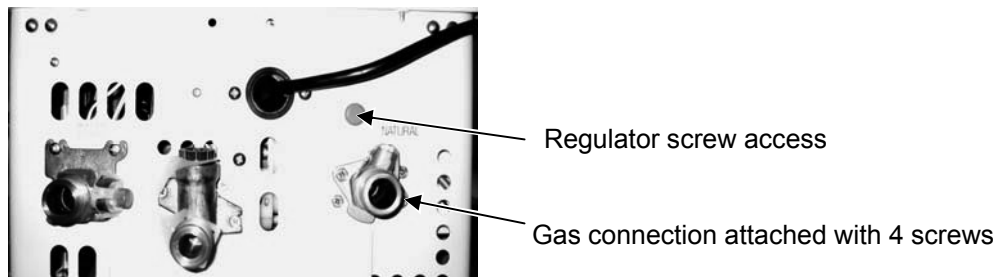

Figure 2
8. Remove the four screws attaching the gas connection to the underneath side of the water heater. See Figure 2.